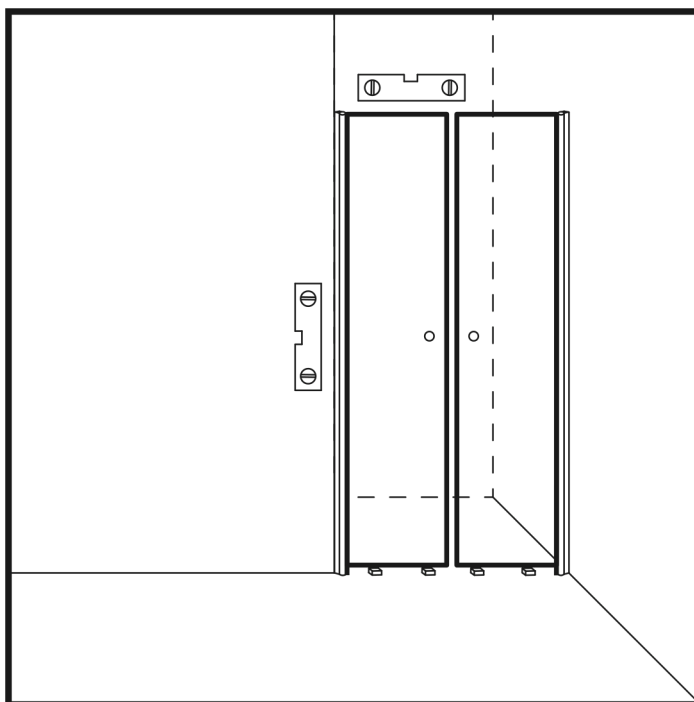

Figure 5
12. Make sure that the glass is properly secured inside the hinge profile and that the edge of the glass is plumb. (Figure 5)